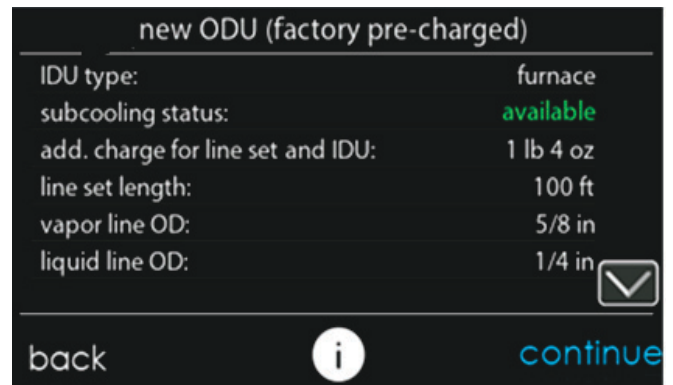
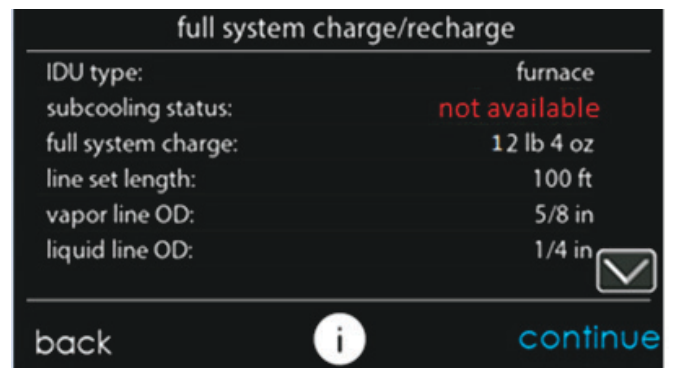

Fig. 15 – New ODU (factory pre-charged) - Subcooling Available
Fig. 16 – Full System Charge/Recharge - Subcooling Unavailable
7. If indoor and outdoor conditions are in range, subcooling status will be green and available (Fig. 15). If conditions are outside the range, subcooling status will be red and unavailable and will require a partial weigh-in of charge (Fig. 16). Both "new ODU (factory pre-charged)" and "full system charge/recharge" modes will allow the user to move forward to start the system regardless of whether subcooling charging is available. Lineset configuration and climate zone / odu material type can be changed by selecting appropriate line if needed. For "new ODU (factory pre-charged)" record the ADDITIONAL charge amount listed. For "full system charge/recharge", record the FULL system charge amount listed. Press continue.